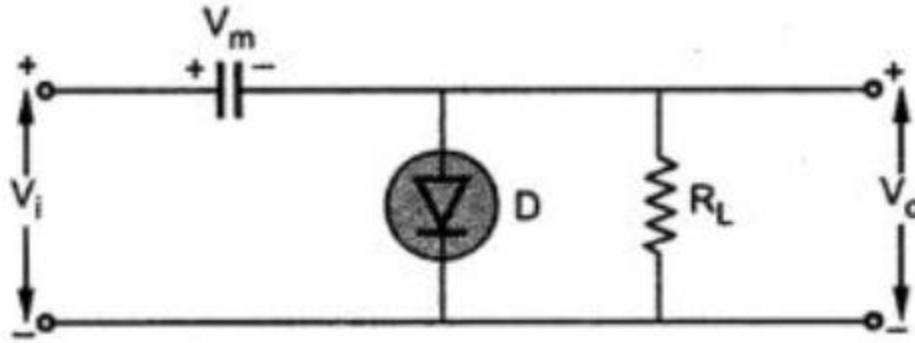

Fig. 2.24 Operation of Negative clamper during first quarter of positive cycle
- The capacitor once charged to V_m , acts as a battery of voltage V_m , as shown in the Fig. 2.24.